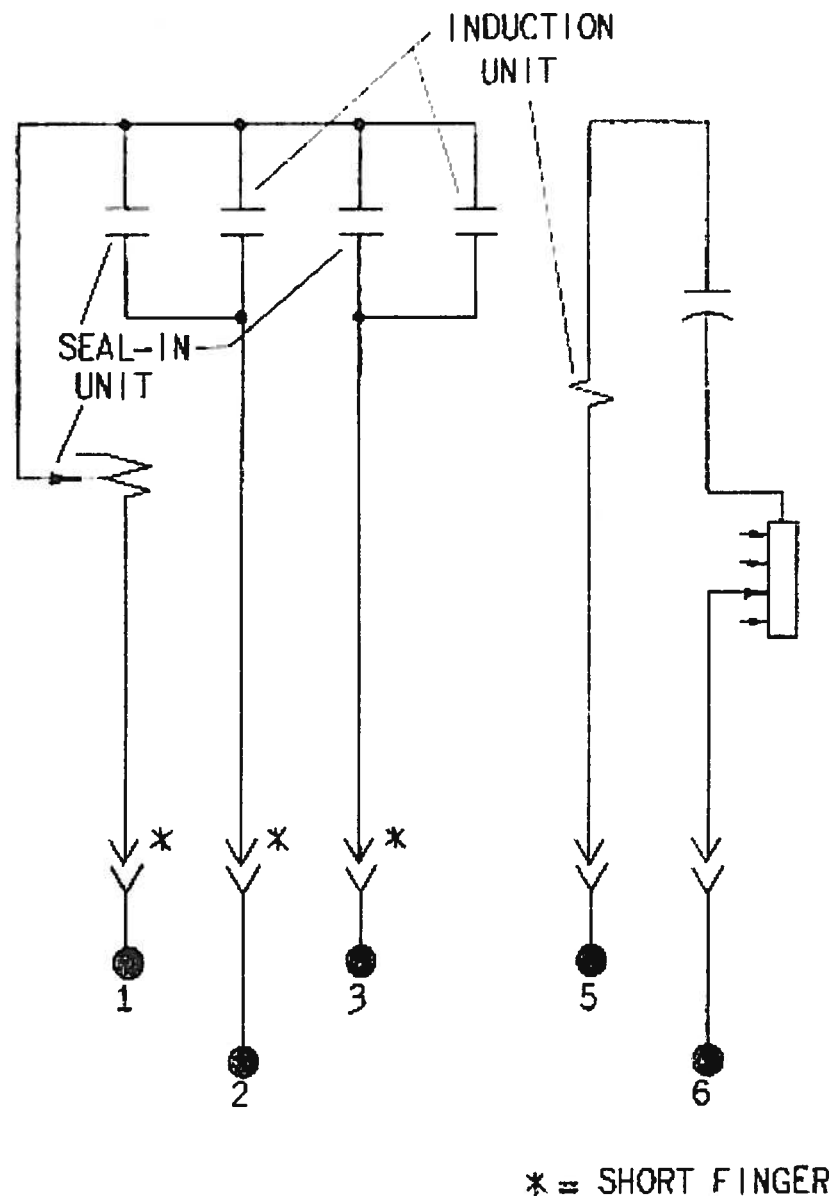

FIG. 6 (418A790-0) INTERNAL CONNECTIONS OF THE TYPE IAV52D RELAY, FRONT VIEW
- FIG. 6 (0418A790-0) INTERNAL CONNECTIONS OF THE TYPE IAV52D RELAY, FRONT VIEW